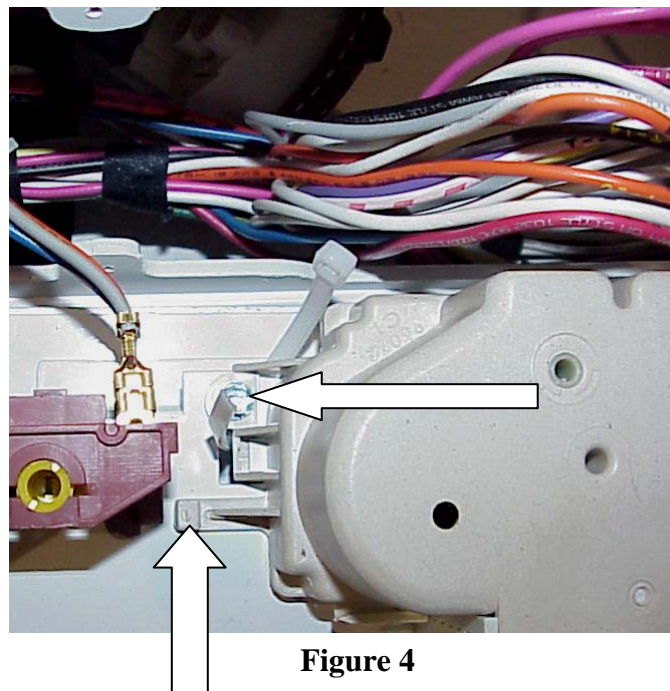

Figure 4
- Remove screw (see Figure 4), lift tab, then slide timer to the left to remove.